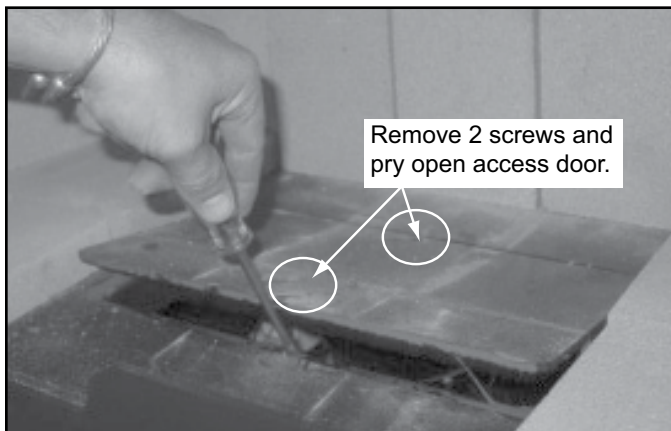

Figure 36.1 Open Access Door
2. Remove 2 Phillips head screws and pry open access door in the bottom of the fireplace with a flat head screwdriver. Figure 36.1.